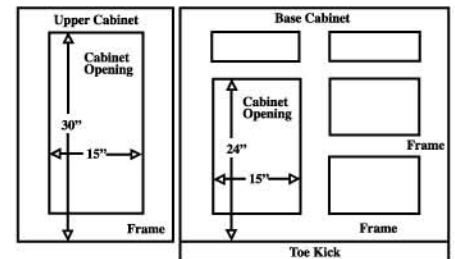

Figure 2
- Measure the width of the cabinet **opening** (as shown in Figure 2) and use the formulas below depending on the hinge type selected. With Framed Cabinets, it is important that you measure the cabinet opening and not existing doors and drawerfronts.
- Height is determined by measuring from the bottom of the **cabinet** to the top of the cabinet **opening** (see Figure 2).